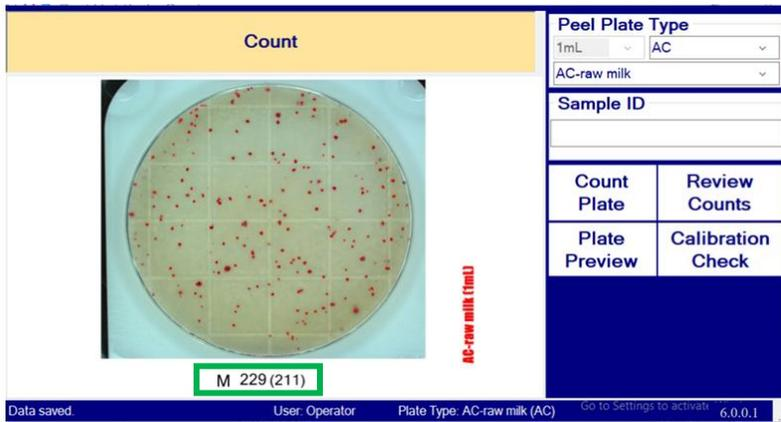

Figure 17B
- The Count, Spreader Count, Dilution Factor, Peel Plate Lot#, Expiration, and notes can be overwritten. (CFU/mL-g is auto-calculated (count x dilution)). Press **Accept Edits** to save the changes permanently. For example, the original count is 211 (Figure 17A), then overwritten with count of 229, (Figure 17B), when **Accept Edits** is pressed. The count appears on the screen and in record as M 229 (211) with CFU/mL-g recalculated. When "Allow Results Override" is enabled, and **Accept/Count Next** is pressed, the data cannot be edited and a new count is initiated without showing Figure 17B.
- Manually entered counts appear with an M in front of the count followed by original Colony Counter count in parentheses. (Figure 17B)